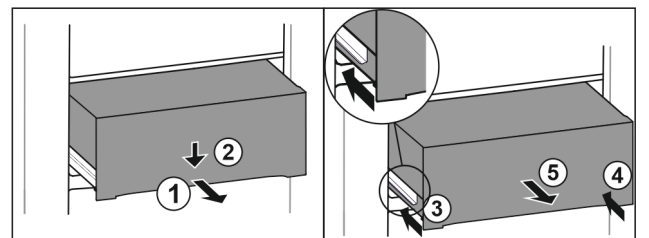

Fig. 143
- Pull out drawer half-way. Fig. 143 (1)
- Push the drawer down at the front. Fig. 143 (2)
- Push the left rail in by about 2 cm. Fig. 143 (3)
- Push the right rail in by about 2 cm. Fig. 143 (4)
- Remove drawer to the front. Fig. 143 (5)